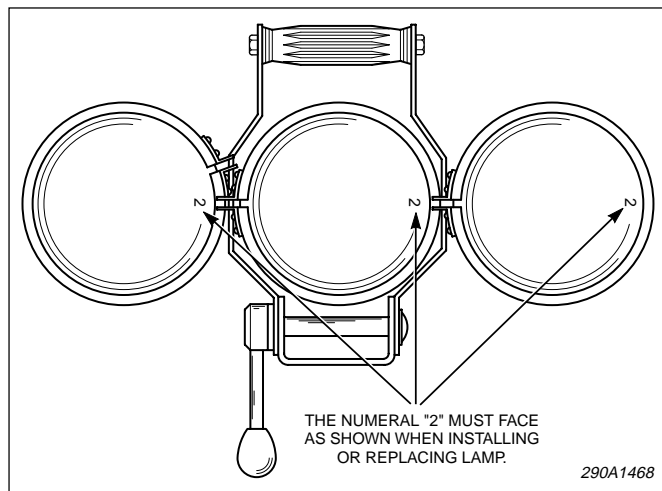

Figure 3.
4. Install the replacement lamp in the housing, making sure that the bosses on the edge of the lamp engage the notches on the front edge of the lamp housing and that the numeral "2" (cast into the front of the lamp) is to the right when the lamp is viewed from the front. See figure 3.